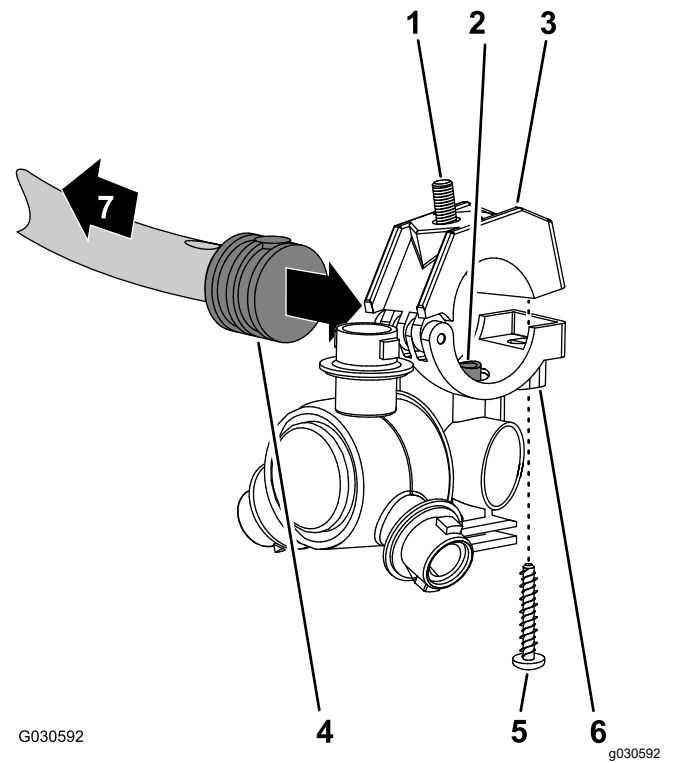

Figure 134
- Align the transfer tube in the saddle of a sprayer nozzle (Figure 134) with the hole in the side of the single barbed-hose shank (1/2 inch).
- Close the upper clamp half around the barbed-hose shank and secure the clamp half and spray-nozzle body (Figure 134) with the stainless steel screw (#12 x 1-1/4 inches); torque the stainless steel screw to 14 to 18 N·m (20 to 25 in·lb).